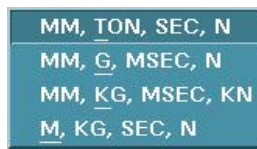

Figure 9.1.2 Unit Type
- The user can select a unit type by selecting the button below UNIT, see Figure 9.1.2.